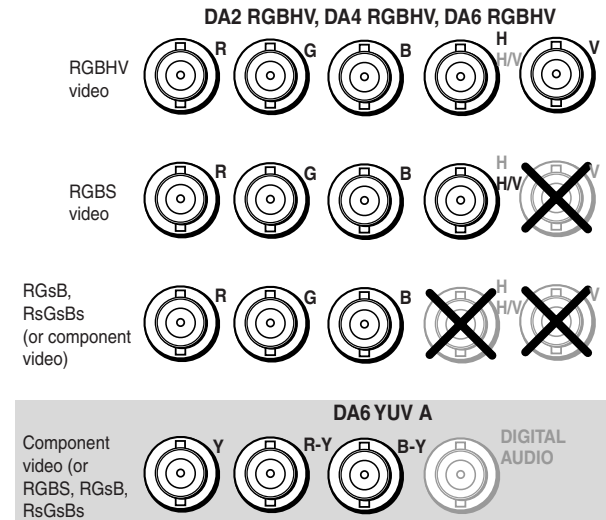

Figure 2-9 — Video output connections
- 3 **RGB and component video outputs** — Connect RGB or component video displays or other devices to these BNC connectors for each video output. Connect the cables as shown in figure 2-9.